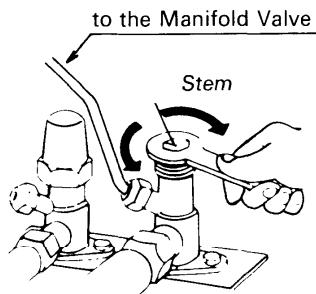

Fig. 11
- e) Remove the cap from the wide tube service valve and turn the stem gradually until it is back seated. Fig. 11